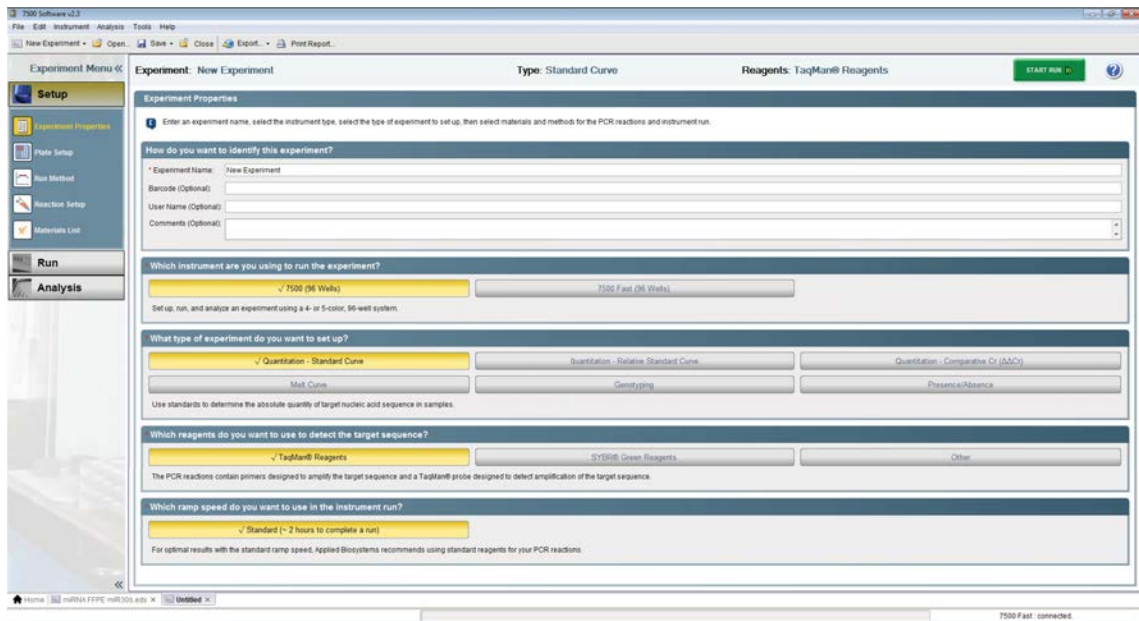

Figure 1. The Experiment Properties screen.
6. In the Experiment Properties form (Figure 1), specify the following parameters: